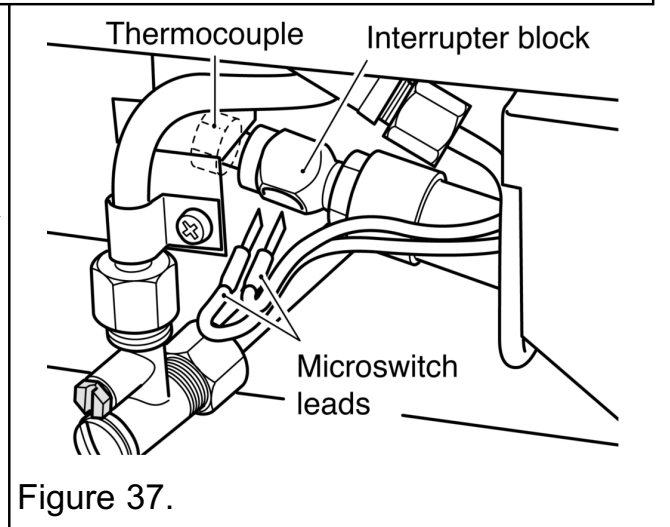

Figure 37.
2. Loosen the thermocouple nut to free the microswitch leads and pull the leads clear of the thermocouple interrupter block (See figure 37).